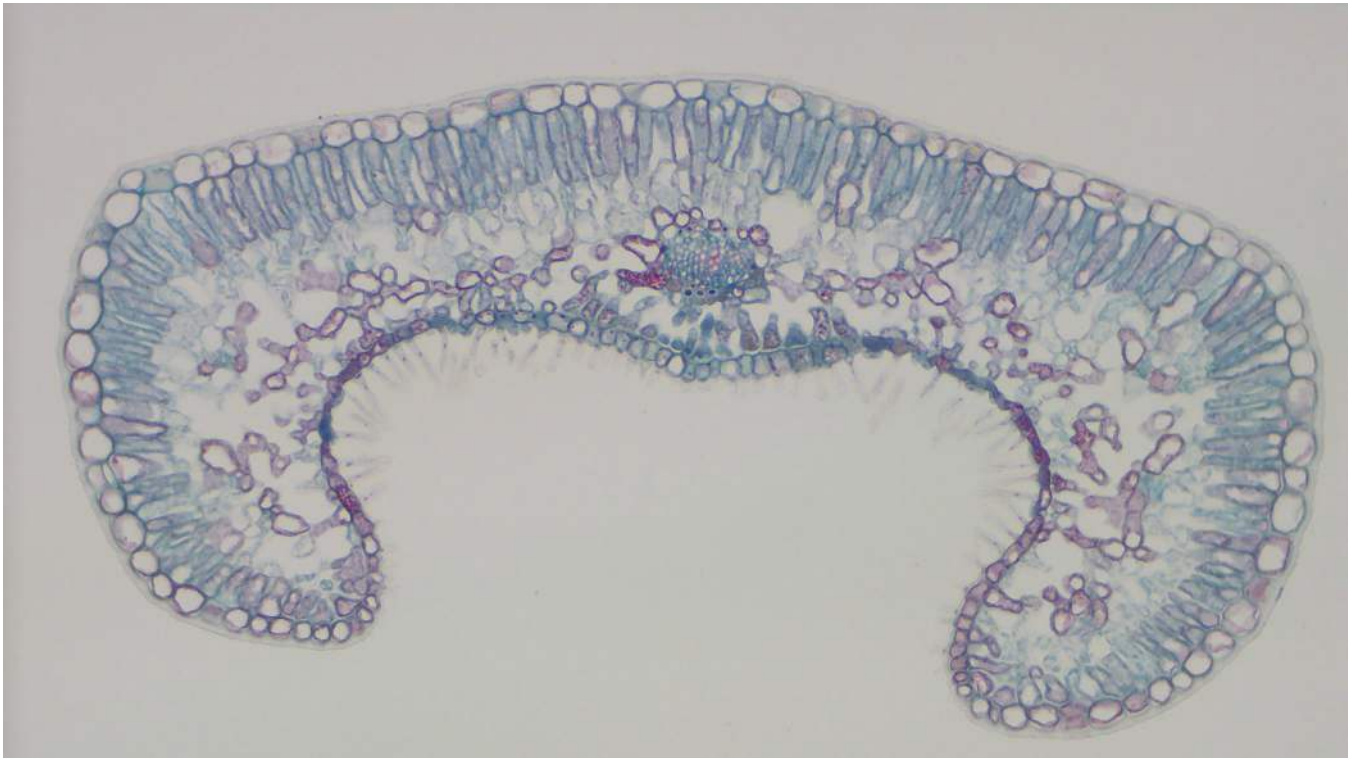
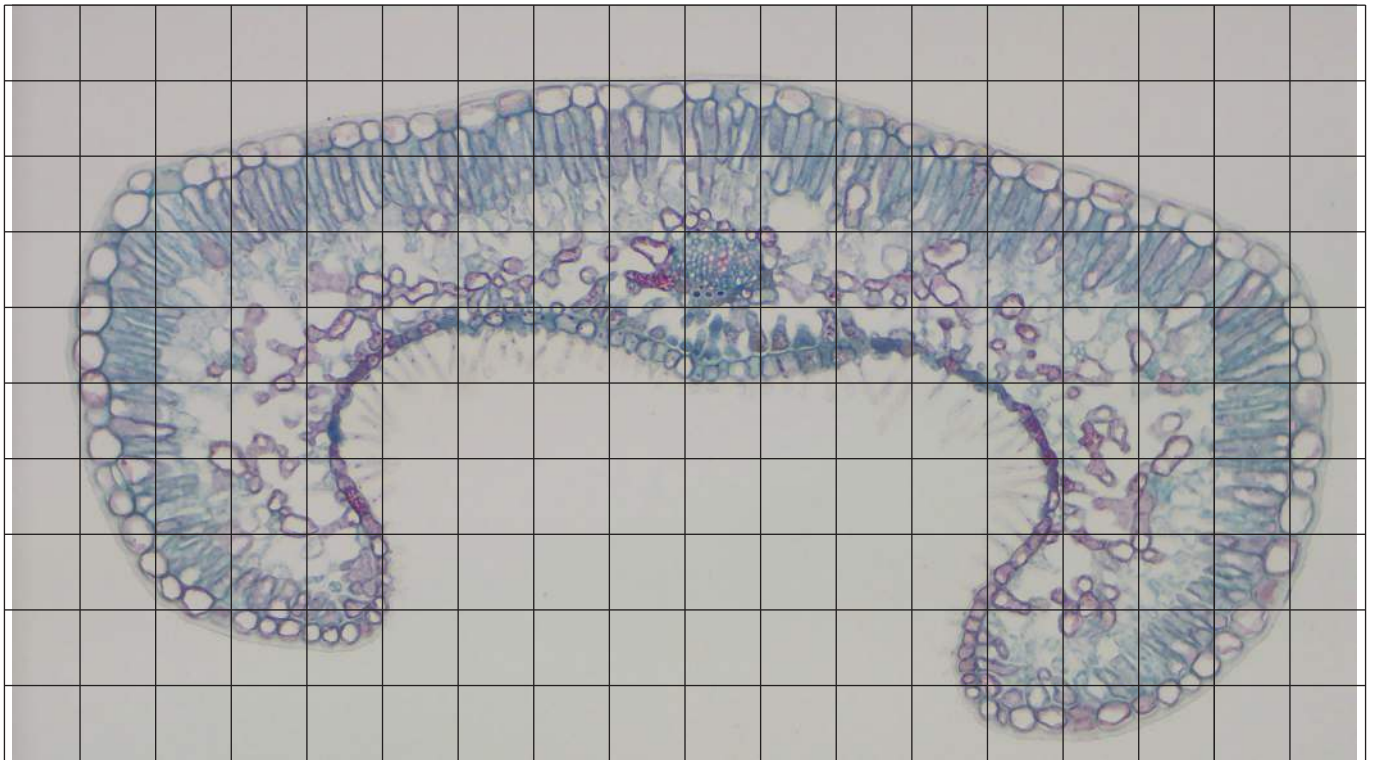

Fig. 2.1
Fig. 2.2
(b) Fig. 2.1 is a photomicrograph of a stained transverse section through a leaf of a different type of plant.
(i) Identify the observable differences between the section on **J1** and the section in Fig. 2.1.
- (ii) The presence of a thick waxy cuticle in the leaf section in Fig. 2.1 supports the conclusion that the plant is adapted to live in a dry environment.
Observe the leaf section in Fig. 2.1.
Suggest **one** other observable feature in the section in Fig. 2.1 which supports this conclusion.
(c) Fig. 2.2 is a photomicrograph of the same leaf section that is in Fig. 2.1.
You will need to use the grid to find the area of the palisade layer **and** the total area of the leaf section in Fig. 2.2.
(ii) State the area of the palisade layer and the total area of the leaf section in Fig. 2.2.